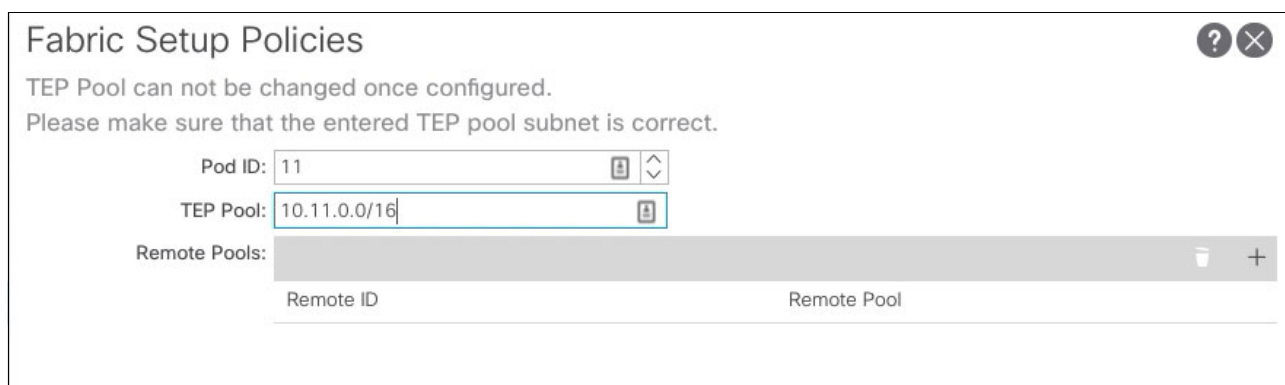

Figure 4-12 Set up Pod and TEP Pool for Site 2
3. Enter the **Pod ID** and **TEP Pool** for Site 2, as shown in Figure 4-12.